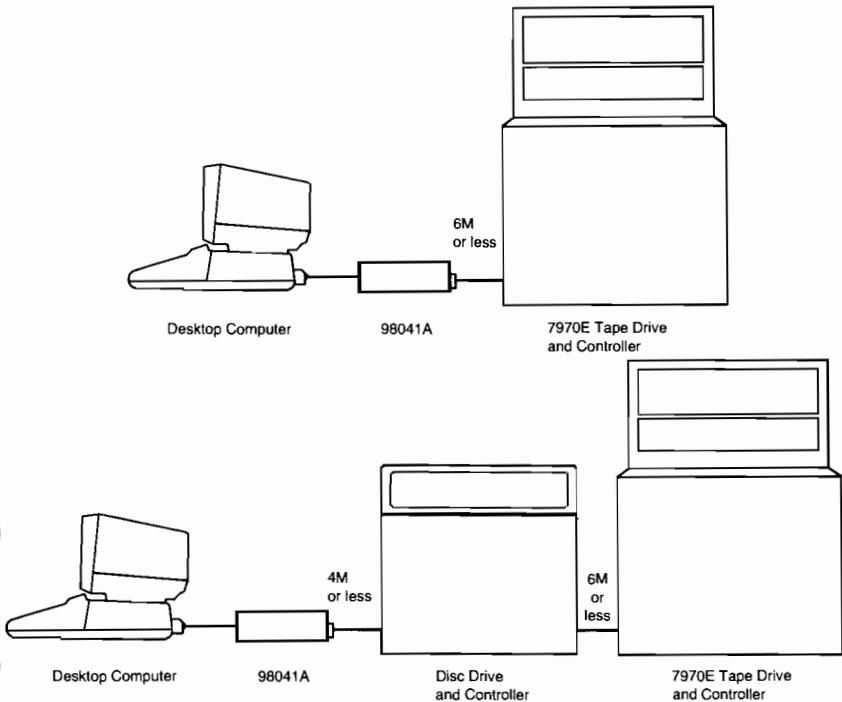

Figure 3-1. Desktop 7970E Supported Configurations.
5. Figure 3-1 is the 7970E supported configuration drawing.